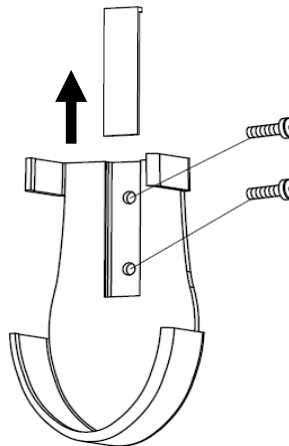

Fig. 15a
2. Remove the screw cover and install the holder using the 2 screws and re-install the screw cover. (Fig.15a).